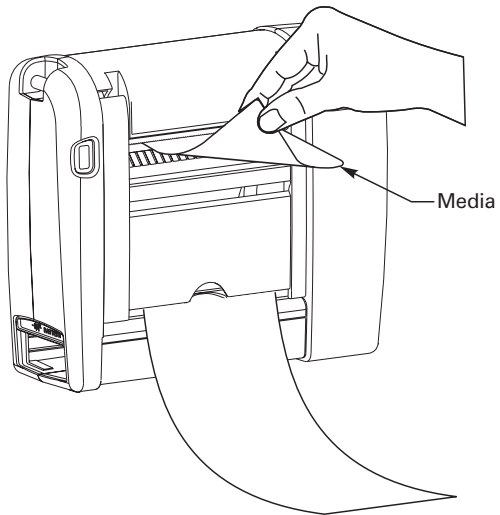

Figure 13
11. Swing up the media access door, ensuring that the media extends over the tear bar (refer to Figure 13).